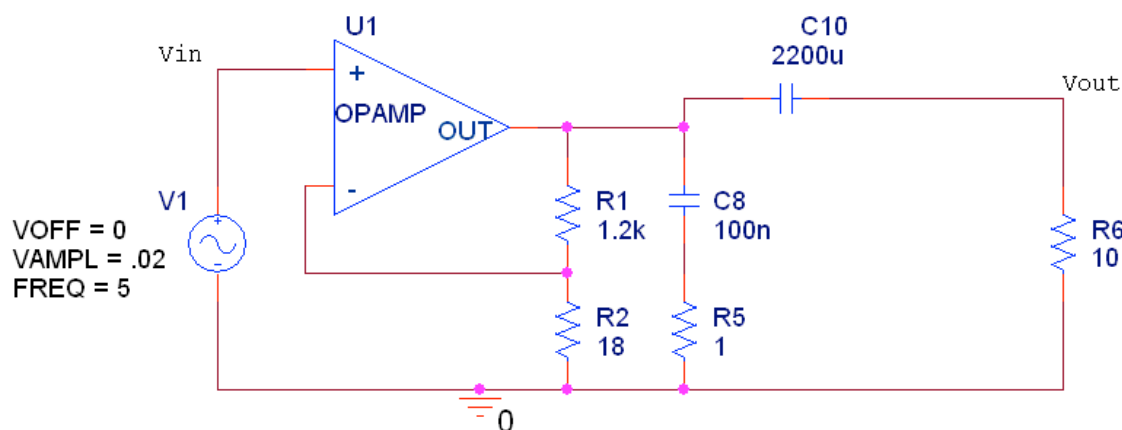

Figure 1: Simplified Schematic for One Channel of the Stereo Amplifier
1. The simplified schematic for one channel of the stereo amplifier constructed in the previous lab is shown in Figure 1.
The 4V peak-to-peak (2V amplitude) sine wave from the function generator will result in approximately 40mV peak-to-peak at the node labeled " V_{IN} " in Figure 1 of the pre-lab. Therefore, only measure the 4V signal on the scope, and assume that the voltage going into the stereo amplifier is 40mV at the same frequency and phase as the 4V signal.